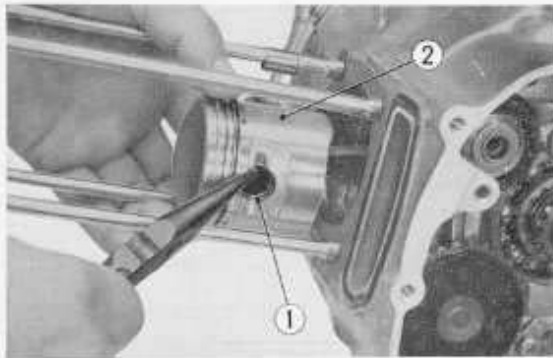

Fig. 3.49 Removing the piston pin
① Piston ② Micrometer
4. Remove the piston pin clip ① and push out the piston pin to disassemble the piston from the connecting rod. (Fig. 3.49)